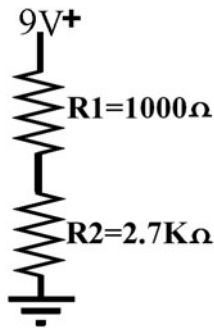

Figure L51-3
2. Before we move into measuring a complex circuit, let me prove to you that when you calculate the current in one portion of a circuit, that current is the same for the remainder of that circuit. You don’t need to make the simple schematic shown in Figure L51-3. All the needed information is there.